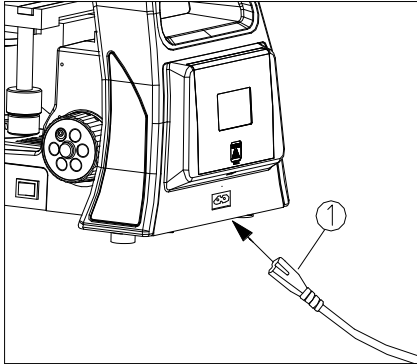

Fig.6
2. Insert the connector① of power cord into the power socket②, and make sure it connects well (see Fig.6).